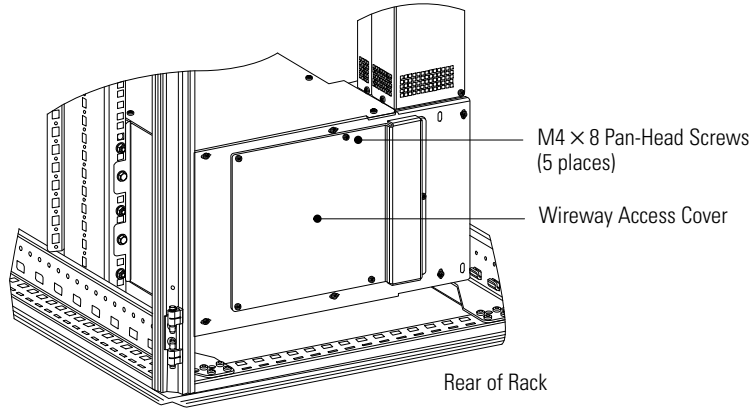

Figure 8. Wireway Access Cover Installation
- 20. Using five M4 × 8 pan-head screws, install the wireway access cover. See Figure 8. Torque the screws to 1.7 ± 0.2 Nm (15 ± 2 lb in).